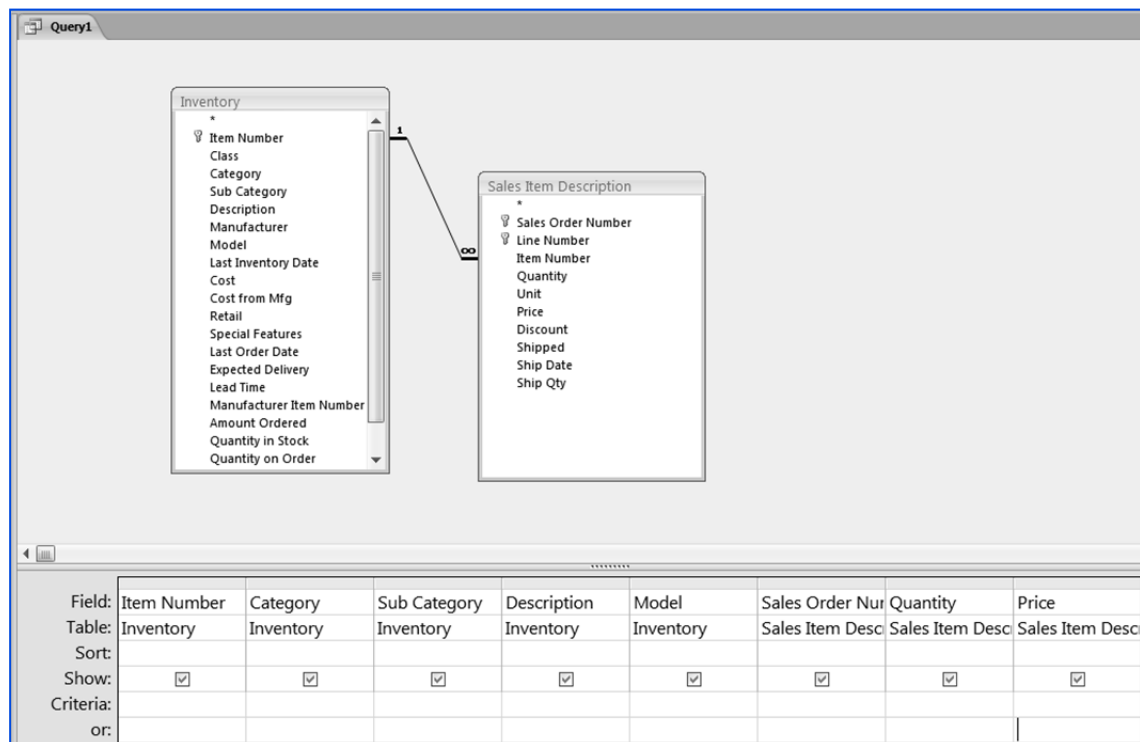

Fig. 3.3.10. Specify Required Columns
- Select *Item Number*, *Category*, *Sub Category*, *Description*, and *Model* from the *Inventory* table and drag them to the *Columns* tab. Similarly, drag *Sales Order Number*, *Quantity*, and *Price*. The *Query* window appears, as shown in Fig. 3.3.10.